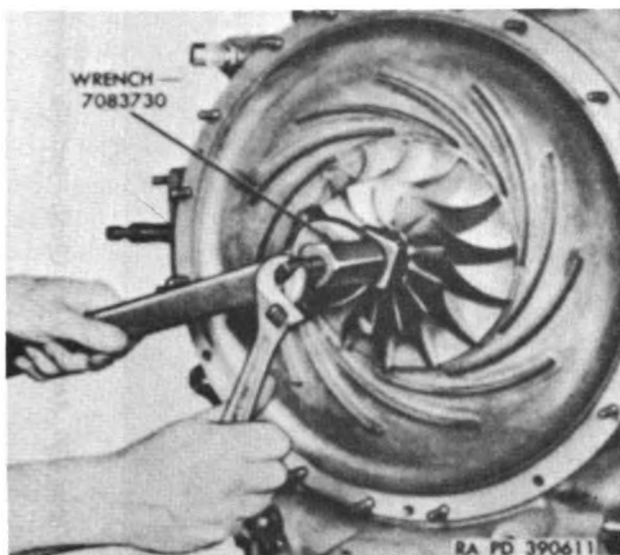
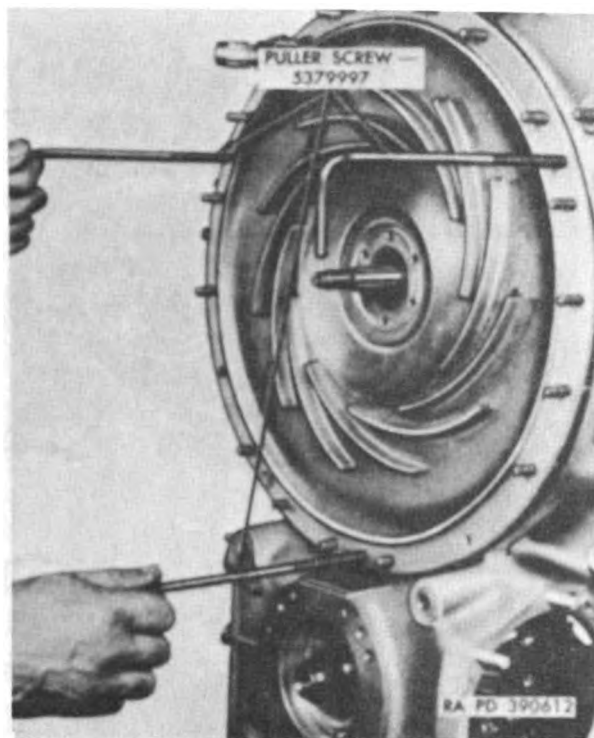

Figure 107. Removing or installing supercharger impeller.
Figure 108. Removing supercharger diffuser.
e. Remove supercharger impeller (K) from impeller driven shaft gear using wrench 7083730 (fig. 107). Remove shims (L) from shaft gear.
f. Straighten tabs of tab washers (N) away from head of hex-head bolts (P) and remove six hex-head bolts and tab washers securing supercharger diffuser (M) to accessory case diaphragm.
g. Remove supercharger diffuser from diaphragm using three puller screws 5379997 (fig. 108). Remove and discard "O" ring packing (F).